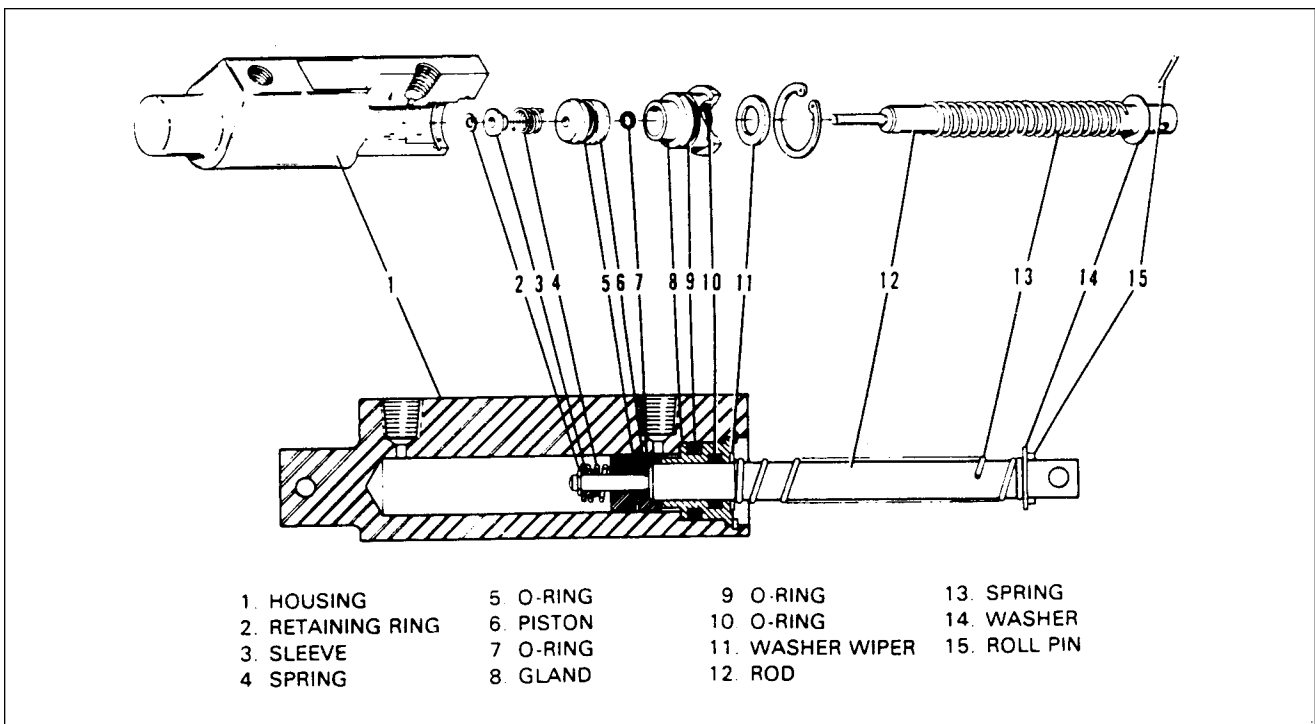

Figure 32-16. Brake Cylinder (10-30) (Toe Brake)
1. Cleveland cylinder number 10-30: (Refer to figure 32-16.)